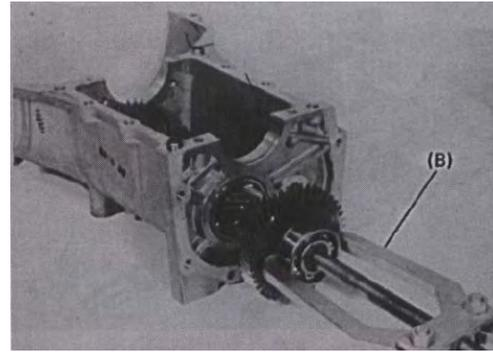

Fig 10-20
(2) Remove countershaft rear bearing. Bearing puller (B)(special tool)(FIG.10-20)